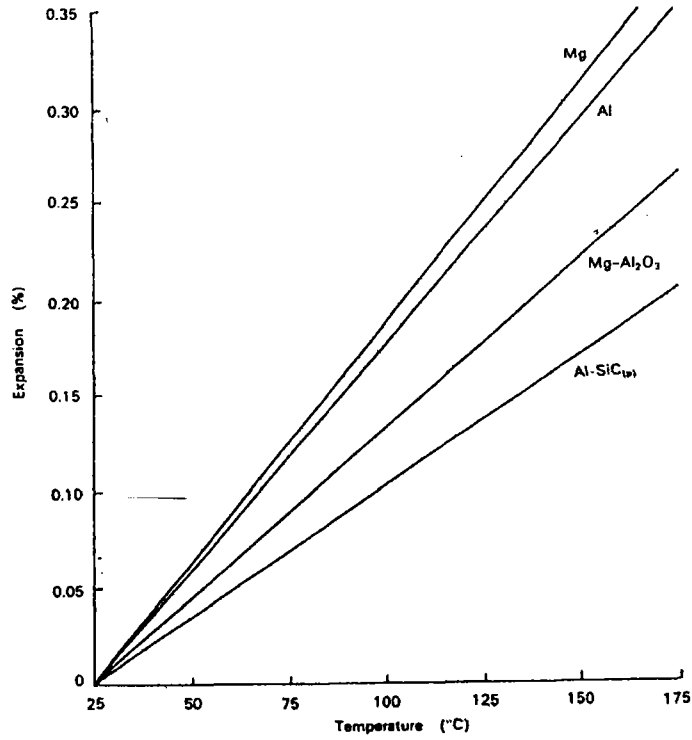

Figure 1: Comparison of the thermal expansion of metals and Metal Matrix Composites.
*You may refer to thermal expansion diagram as illustrate in fig 1.*